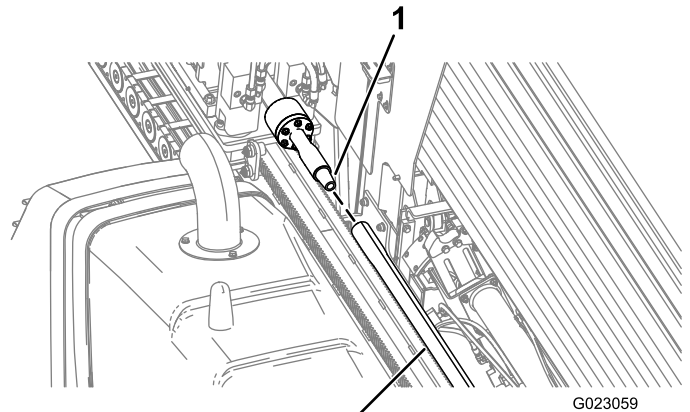

Figure 85
6. Rotate the drill spindle clockwise and move the carriage slowly forward to insert the spindle into the female end of the pipe (Figure 85).
9. Rotate the drill spindle clockwise and move the carriage slowly forward to insert the spindle into the female end of the pipe (Figure 85).